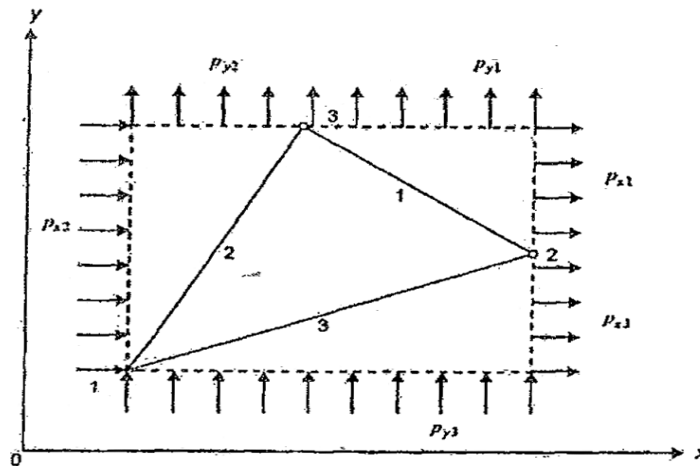

Fig. Q.14(a)(ii)
14. a) i) Derive the expression for consistent load vector due to self-weight in a CST element. (8)
- ii) Find the expression for nodal vector in a CST element subject to pressures P_{x1}, P_{y1} on side 1, P_{x2}, P_{y2} on side 2, P_{x3}, P_{y3} on side 3 as shown in Fig. Q. 14 (a) (ii) . (8)